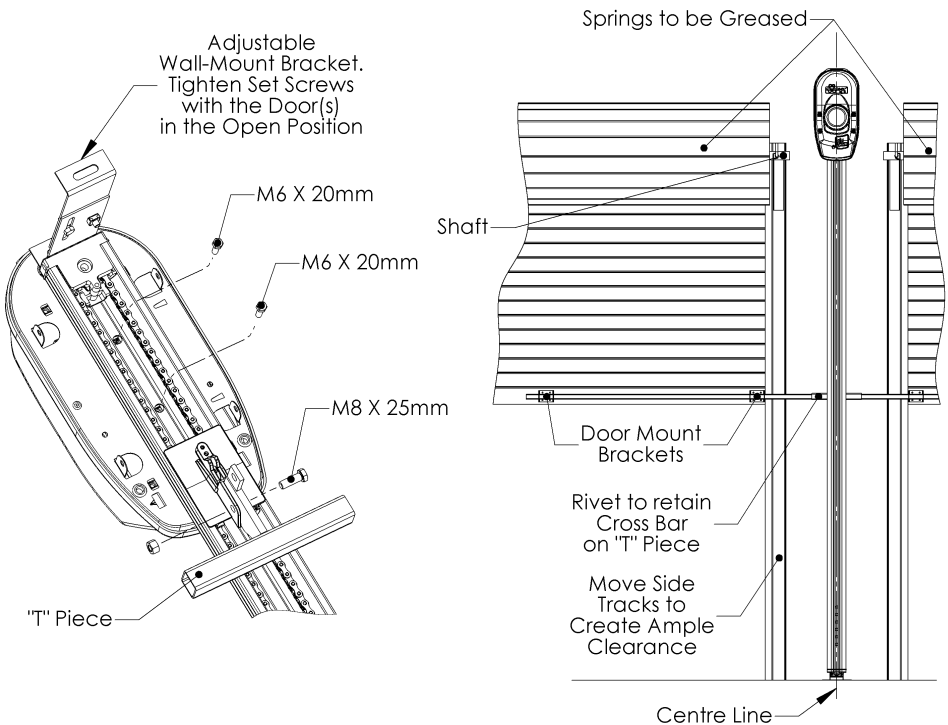

Fig. 4
2. With the open side of the Drive Strut assembly upwards (chain visible), align the motor shaft with the sprocket and fit the strut so that the motor shaft passes through the hole in the strut. Secure the strut to the power-head with M6 bolts in the upper and lower positions. See fig. 4 on Page 12.